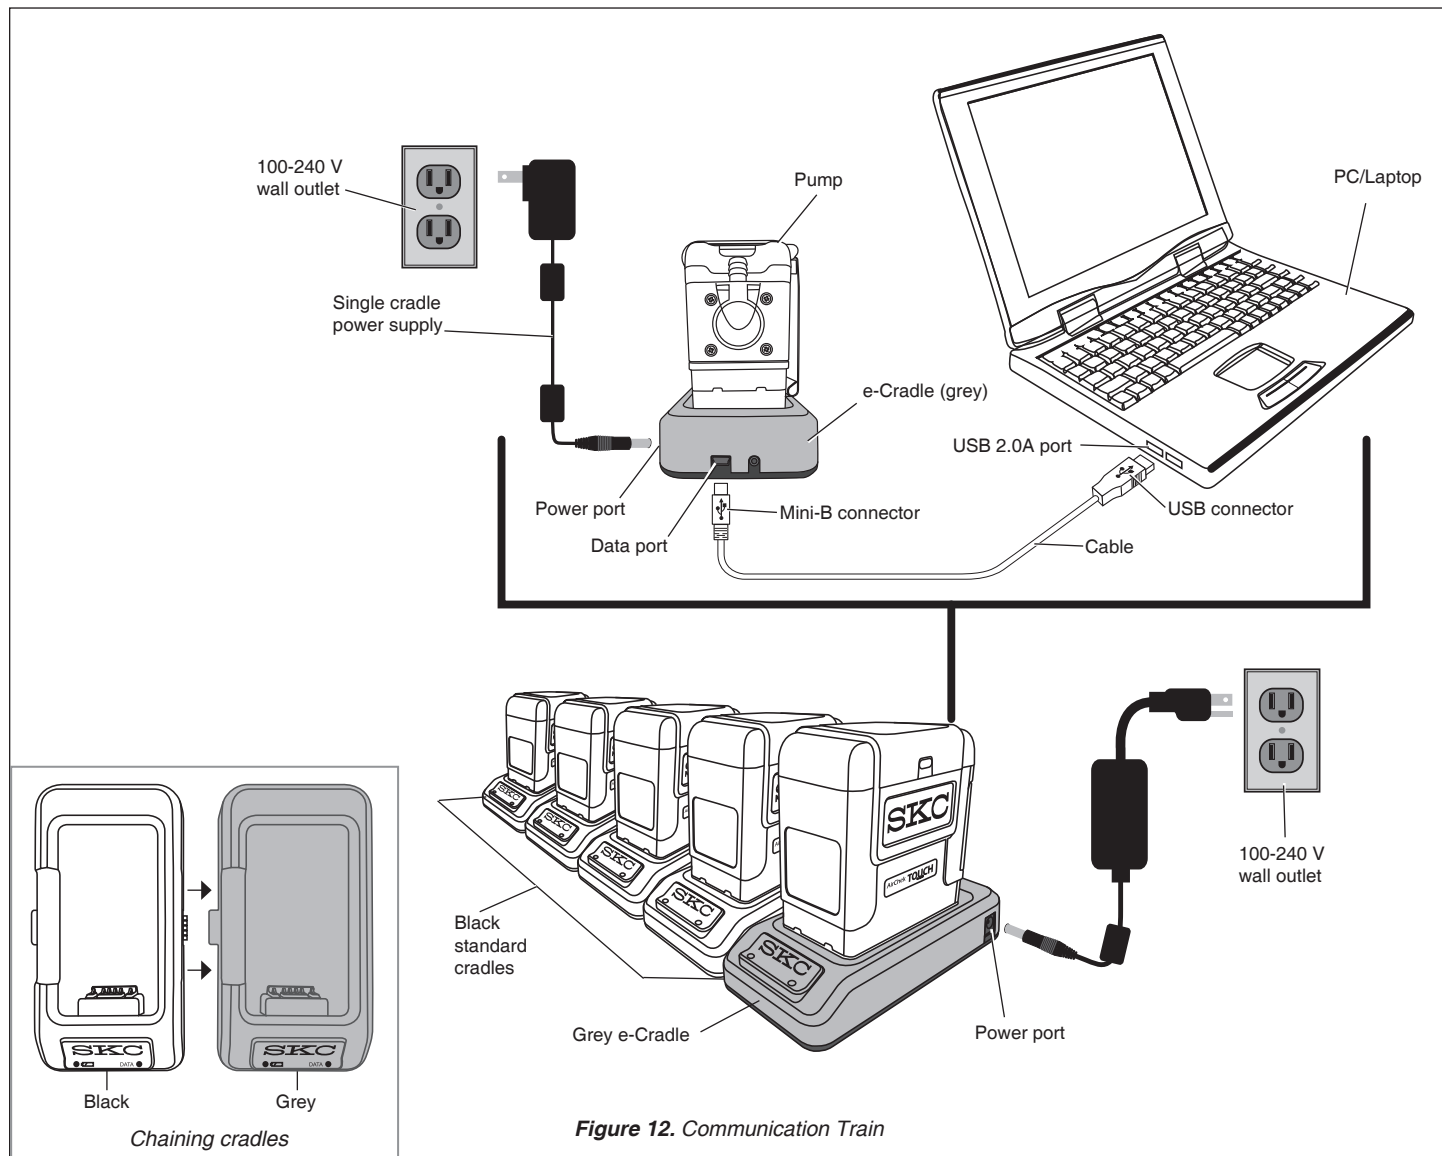

Figure 12. Communication Train
2. Create a Communication Train (*Figure 12*). Turn **on** pump(s).